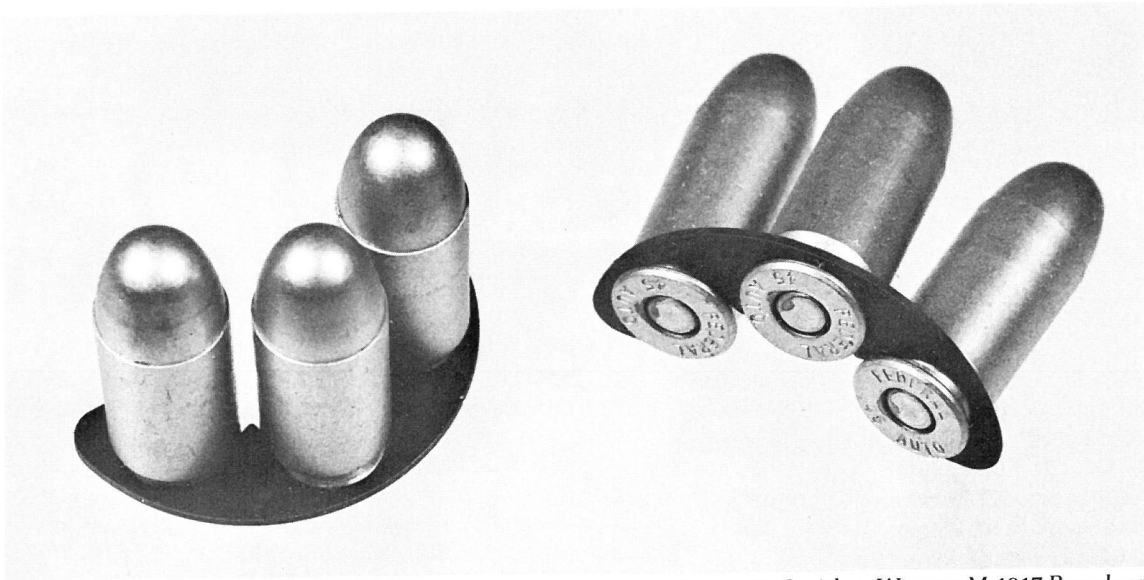

Figure 56. Smith & Wesson M 1917 Revolver Three-Shot Clip
56. *Smith & Wesson Model 1917 Revolver Three-Shot Clip (figure 56)*